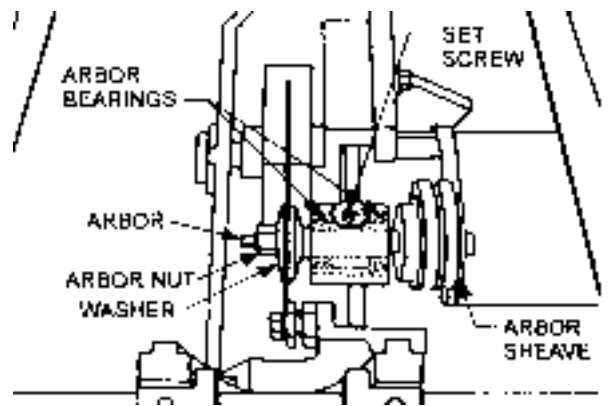

FIGURE 13
3. Loosen the setscrew at the saw raising arm and the arbor assembly and bearings will slide out of the arm housing, Figure 13.